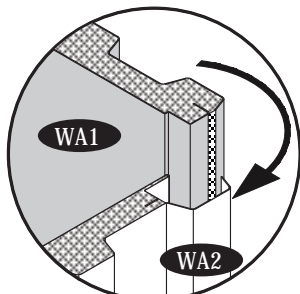

Fig.1
14. Insert the wall panel (WA1) into the wall panel (WA2) and base 'U' channel. Follow the fig.1,2,3 & 4. Make sure the panel edges as shown in fig.1&5